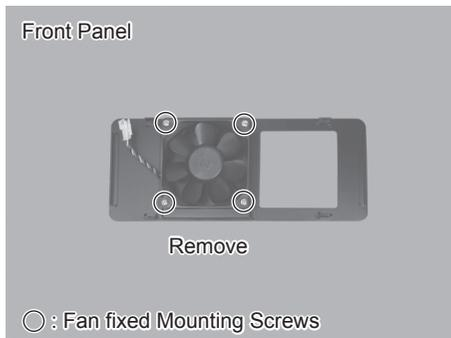

Fig. 44
- (6) Remove the FAN Mounting Screws (4pcs.) from the Case (Front Panel) of the CONTROLLER (Fig. 44).